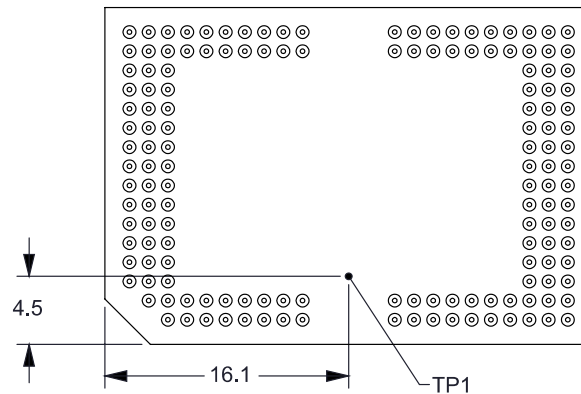

图 7-4. DMD Thermal Test Points
Relationship between array temperature and the reference ceramic temperature (thermocouple location TP1 in 图 7-4) is provided by the following equations:
- $T_{CERAMIC}$  = measured ceramic temperature, TP1 location in 图 7-4 (°C)
- $Q_{ARRAY}$  = total power, electrical plus absorbed, on the DMD array (W)
- $Q_{ELECTRICAL}$  = nominal electrical power dissipation by the DMD (W)